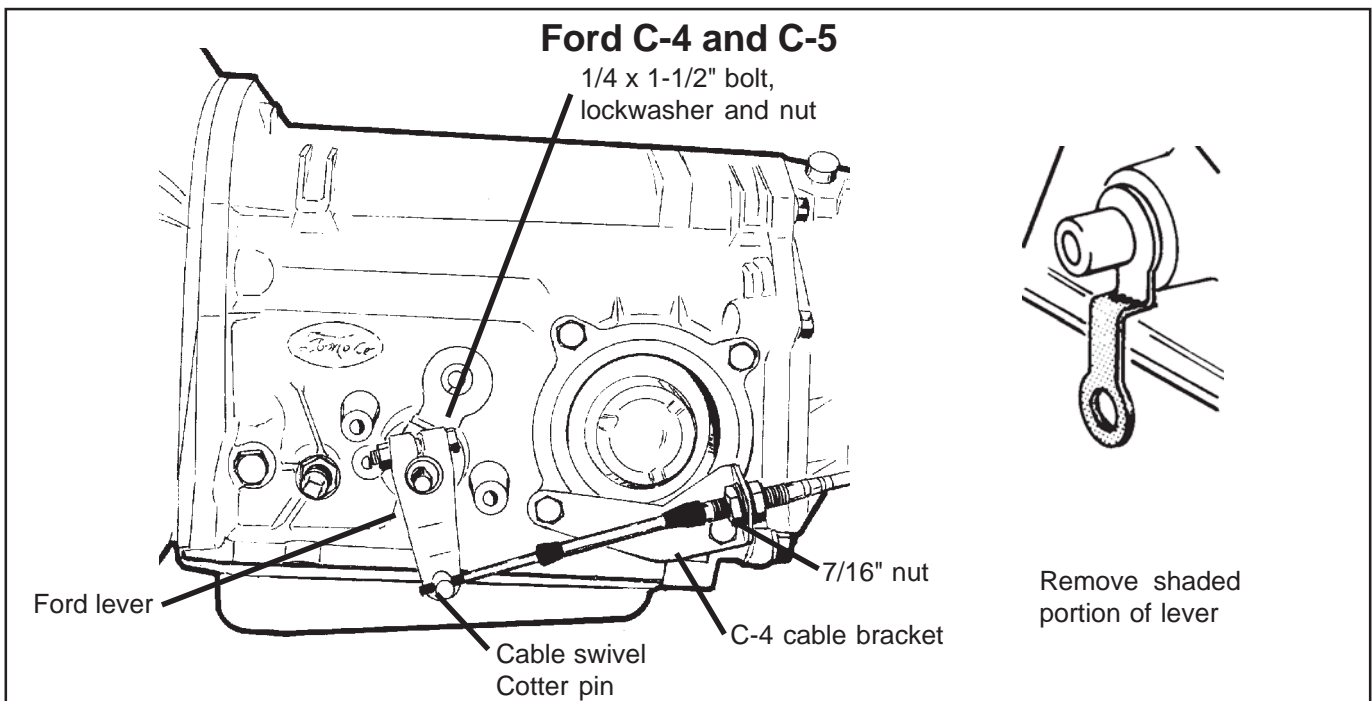

Figure 6
**STEP 16.** Install the **B&M** selector lever (See Figure 6 or 7). **Note:** The **B&M** lever must point downward for proper operation. If the stock shift lever on your transmission points down, you will have to remove the lower part of the stock arm by cutting it off to clear the **B&M** lever (See Figure 6 ). Install the **B&M** selector lever onto the shift shaft of the transmission. Align the selector lever so when it points straight down it travels equal arcs in both directions from the center, then tighten the 1/4"-20 x 1 1/2" pinch bolt and nut. The lever should travel smoothly from front to back with a positive click in each gear position. Make sure the O-ring is in position on the downshift shaft and
**C-4, C-5:** Remove the two lower bolts from the rear servo cover. Install the cable bracket in position (See Figure 6). Install the two servo cover bolts as removed and tighten to 12-13 lb.ft. Do not overtighten as this can distort the servo cover.